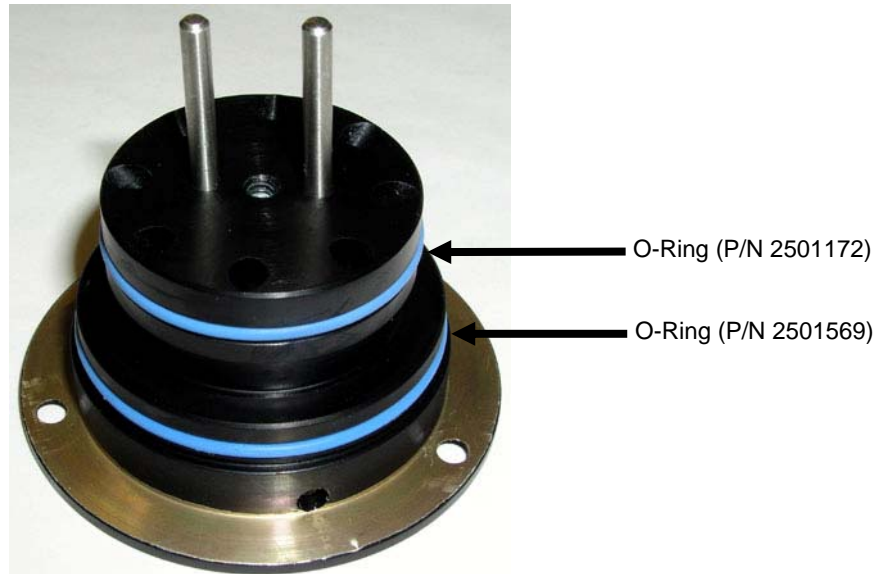
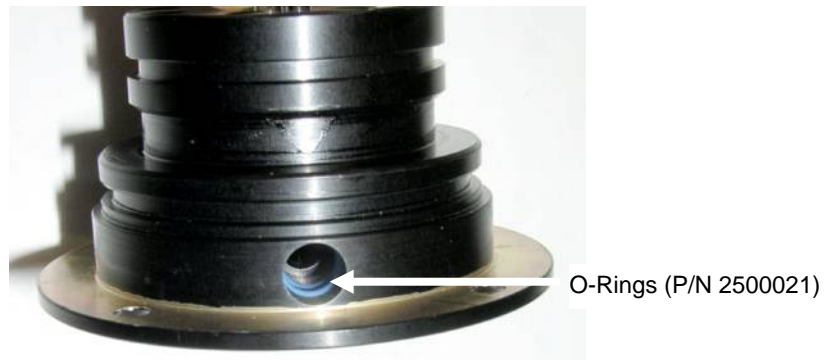

Figure 8-7
Figure 8-8
11. To install a wick back into the CPC, confirm that four O-rings on the saturator base are in place and undamaged. Replacement O-rings are provided in the accessory kit if an O-ring on the saturator base becomes lost or damaged. Figure 8-7 shows the two outer O-rings (P/N 2501172, 2501569) and Figure 8-8 shows the two inner O-rings (P/N 2500021).